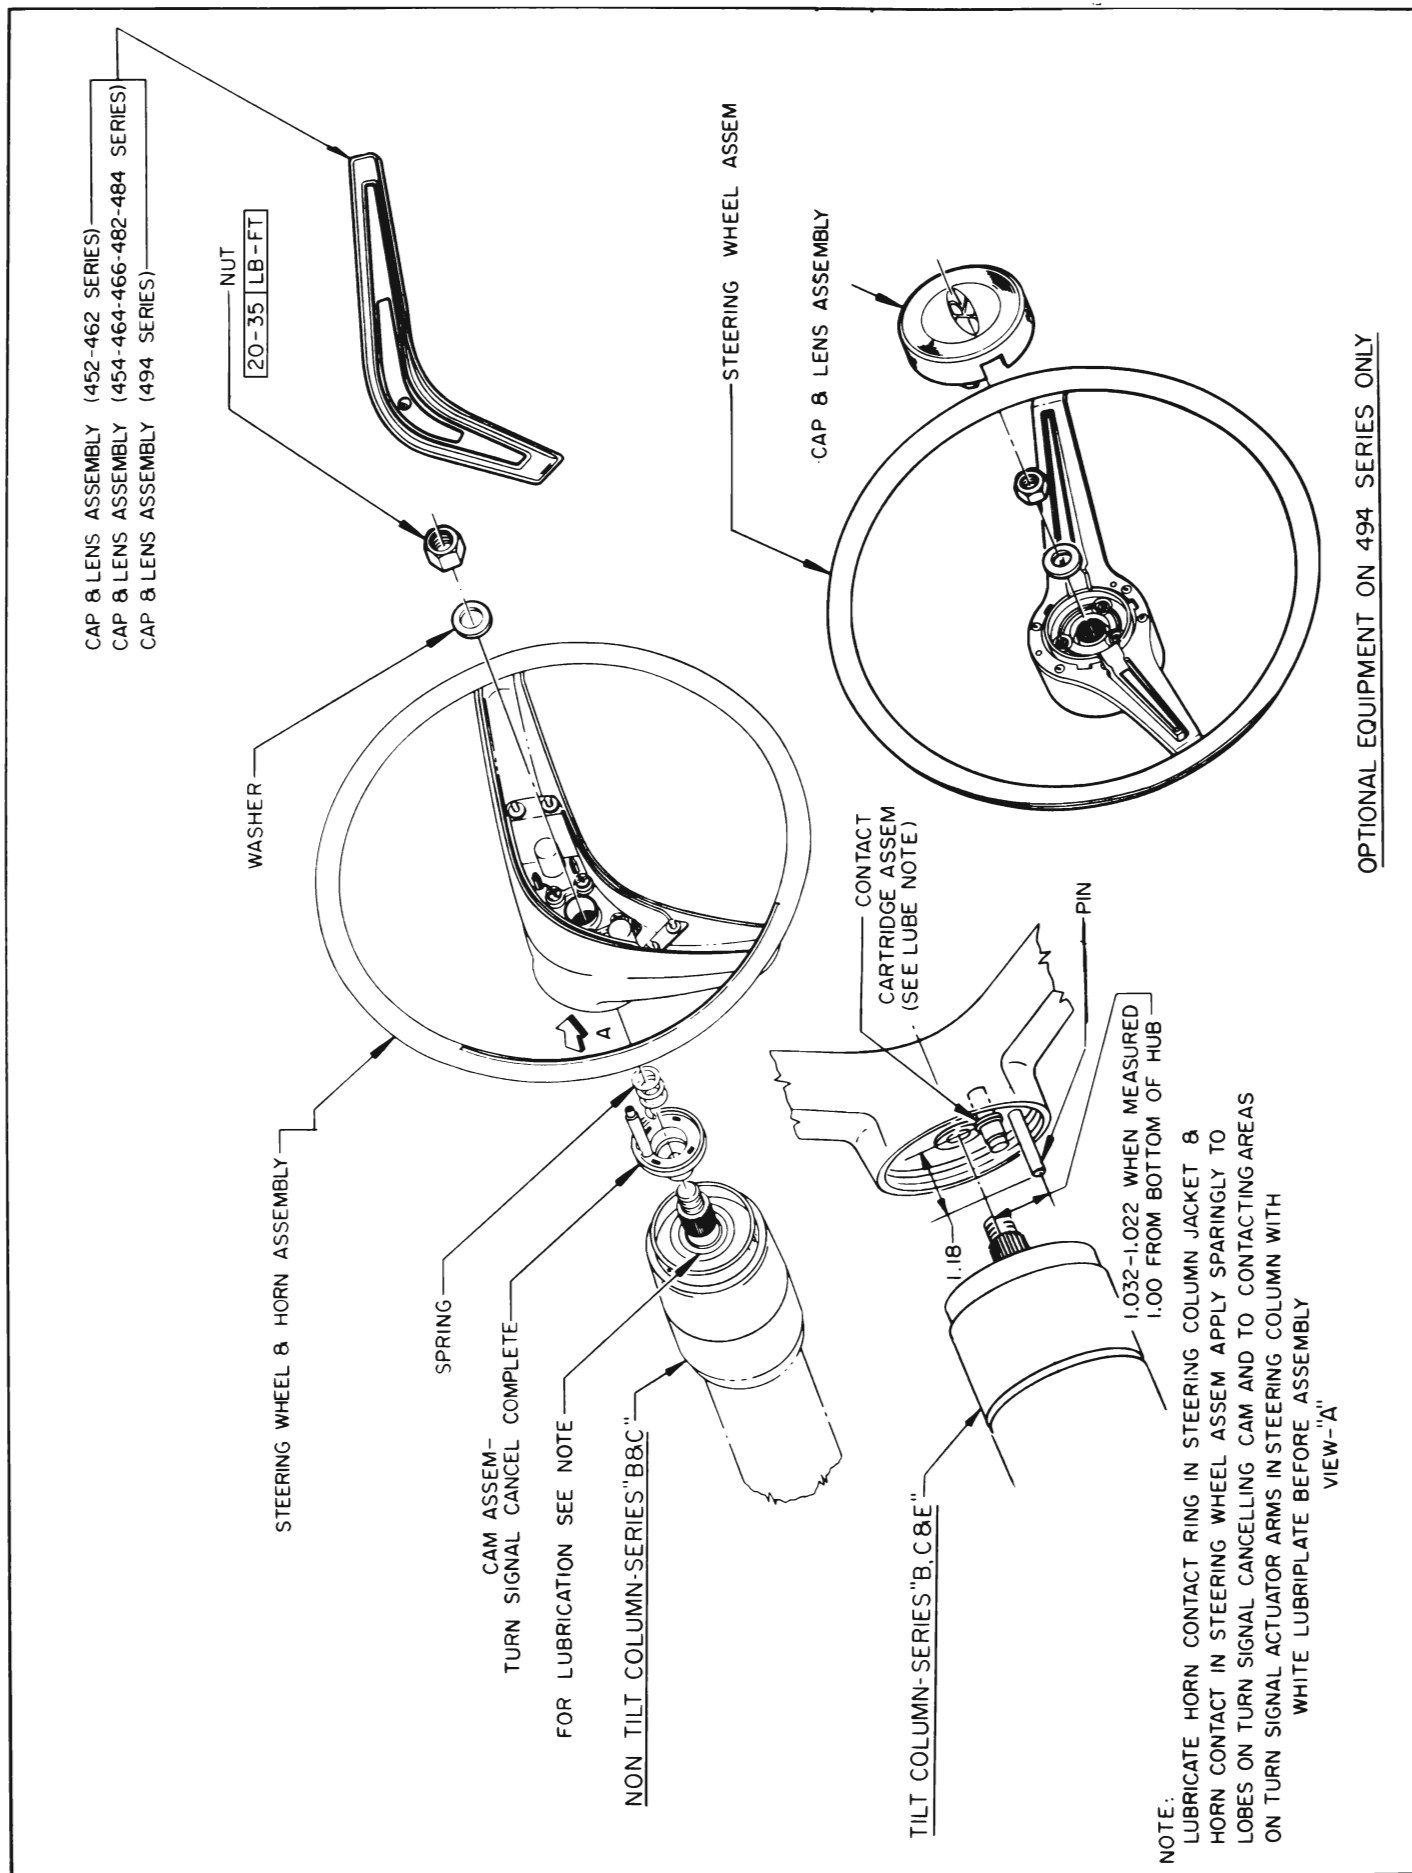

Figure 10-55—Steering Wheel Installation
The steering wheel has an actuator bar mounted across the steering wheel. Fastened to the base of the actuator bar, but insulated from it, is a contact plate which is "hot" at all times. See Figure 10-55. When the actuator bar is rocked, the contact plate contacts a ground plate on the steel hub of the steering wheel to ground the horn relay winding, close the relay contacts, and blow the horn. When the actuator bar is released, two springs move the actuator bar and contact plate assembly clear of the ground plate.
2. To remove horn connector brush, remove actuator bar cap. Remove actuator bar. Lift ground plate and horn connector brush from steering wheel. If steering wheel must be removed, see Figure 10-55.